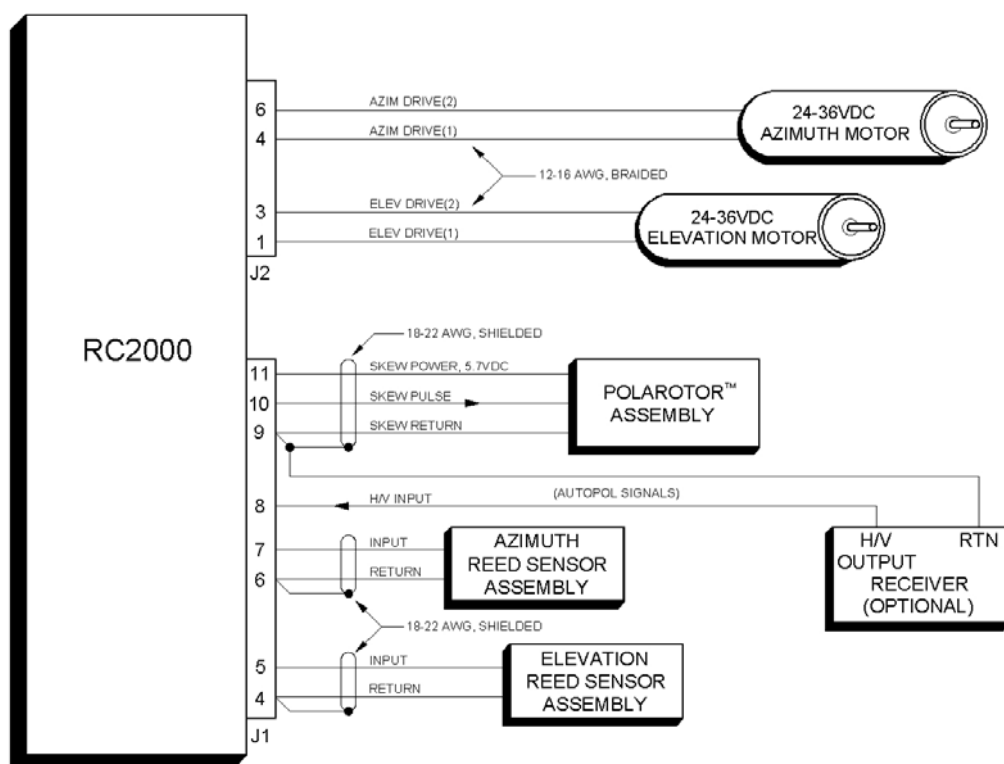
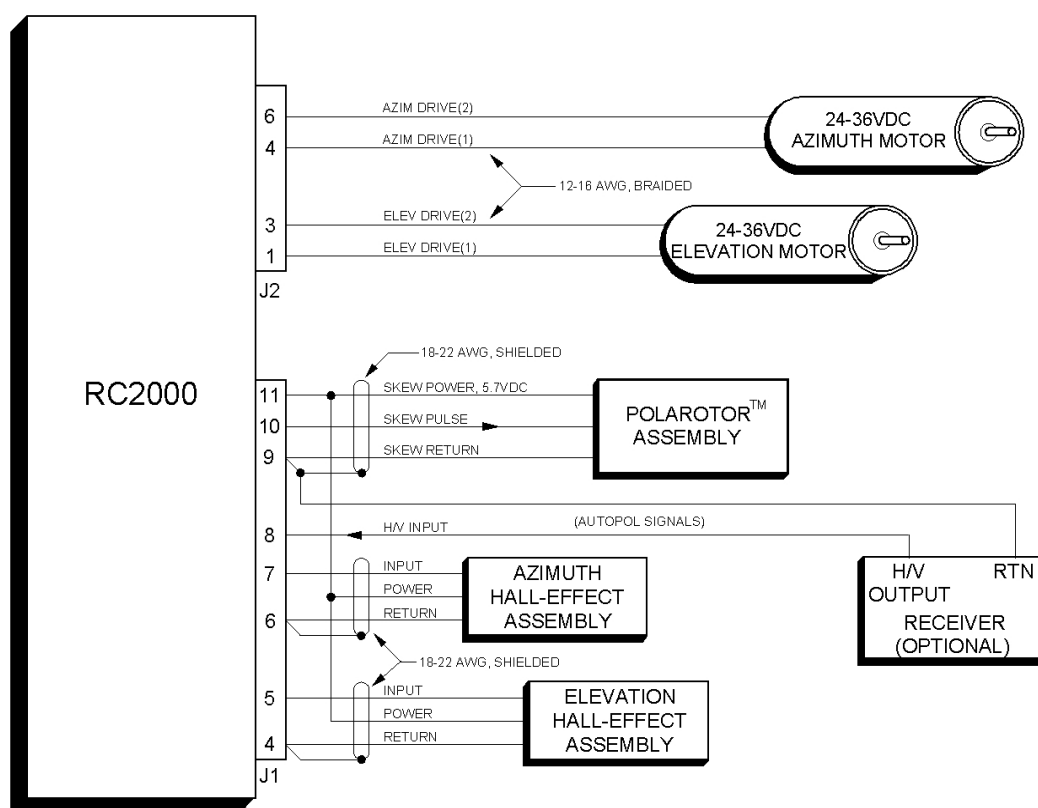

Figure 3.2 - Reed Sensor Interface
Figure 3.3 - Hall Effect Sensor Interface
Connect the Polarotor™ as shown in either figure 3.2 or 3.3. Shielded cable is required to minimize noise pickup.
If reed switch sensors are used, each axis requires 2 wires in a shielded cable. If Hall effect sensors are used, each axis requires 3 wires in a shielded cable. Shielded cables are required to minimize noise pickup that can result in antenna positioning errors. Please refer to figure 3.2 for reed sensor connections and figure 3.3 for Hall Effect sensor connections.
2. Connect the AutoPol input as shown in figures 3.2 or 3.3.